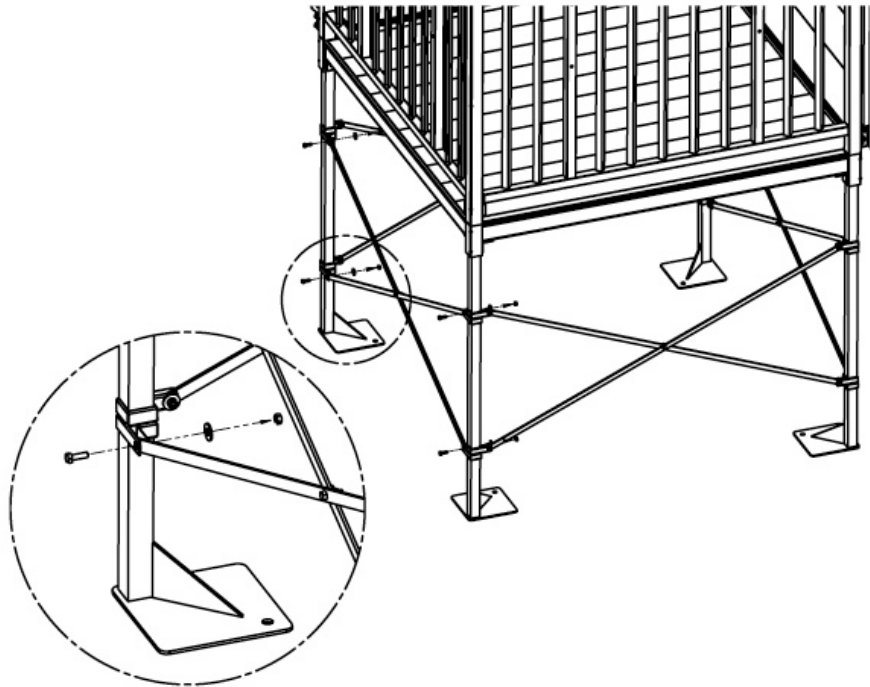

FIG. 4
- 1.5.6 Install brace assembly using four 5/16"-18 x 1-1/2" long carriage bolts, nuts and washers in the desired location (FIG. 4).